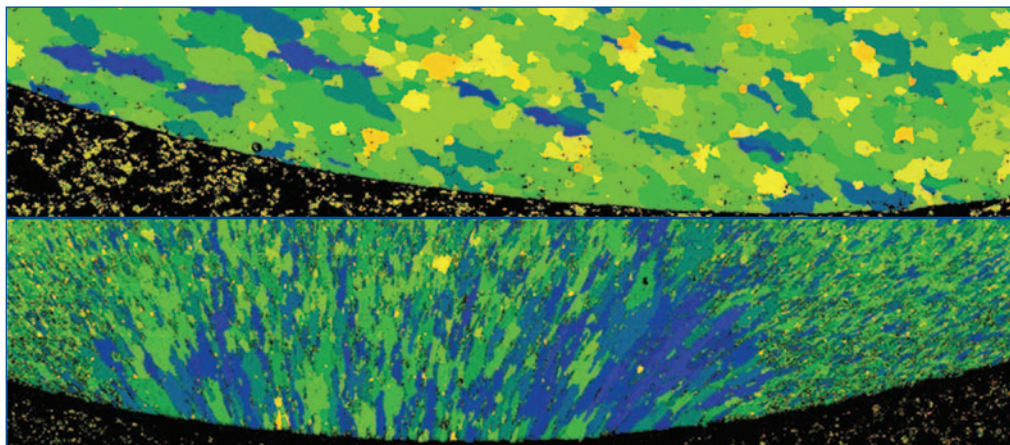

Figure 2: Carabiner A (top) shows nearly equiaxial grains and Carabiner B (bottom), meanwhile, shows greater elongation in the grain structure.
**Figure 2: Ferrite Martensite – A combined Image Quality (IQ) and Orientation map from a dual-phase ferrite-martensite low carbon steel. The phase transformation from ferrite to martensite produces orientation, morphology, and image quality characteristic that can be used to differentiate and quantify the phases present, and to optimize processing parameters for optimal mechanical properties.**